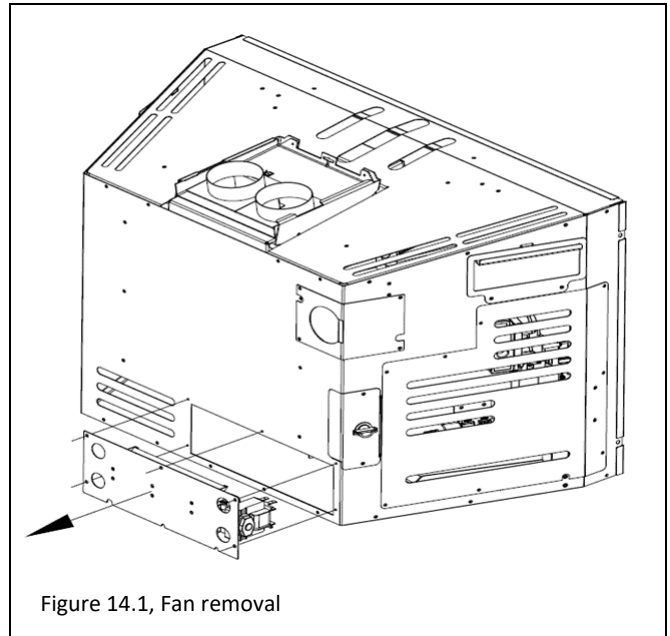

Figure 14.1, Fan removal
5. Remove the (6) screws securing the fan plate from the fireplace. See Figure 14.1 Pull the fan plate towards you and disconnect the wiring. Connect wiring to the new replacement fan kit and install in reverse order.